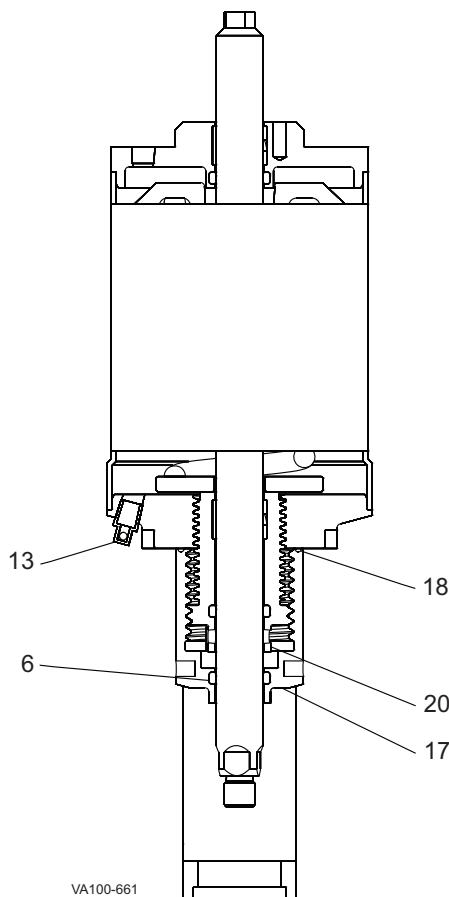

Figure 42: 4", 5", and 6" Air-to-Lower, Adjustable-Spring Actuator
4. Using wrenches on the upper and lower wrench flats, unscrew and remove the upper stem (Figure 42, item 1). **Do not remove the lower stem (item 3) as it locates an internal support washer.**
5. Remove and inspect the indicator area stem O-ring (item 6). Remove the worn O-ring seal. Coat the new O-ring seals with Dow Corning® #7 Silicone Lubricant or equivalent, and replace them.
6. Inspect and replace the PTFE guide bearing (item 5) in the indicator area as needed.
8. Once secure, screw in the adjustment screw (item 20) until it is held by threads (not in its final position). Refer to Adjustable-Spring Actuators: Pressure Setting (Table 3 on page 17) for setting it to the desired loading pressure.